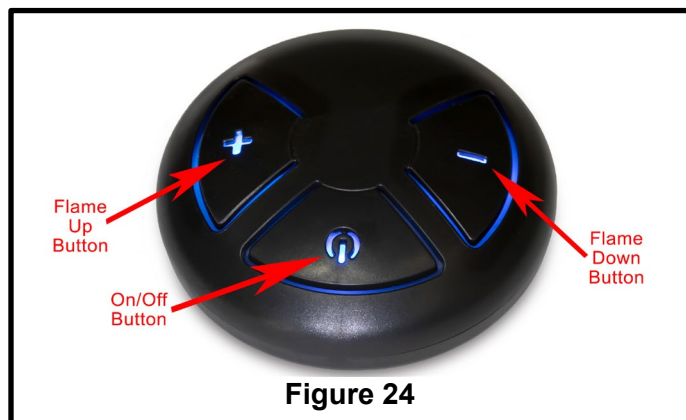

Figure 24
Install the included 2 AAA batteries in the “Puck” transmitter by first removing the battery compartment cover. Then, insert the batteries in the battery compartment and close it (Figure 24).
3. Within the next 20 seconds, press the transmitter’s flame down button (Figure 24) until you hear the receiver emit two short beeps confirming that the code has been set.